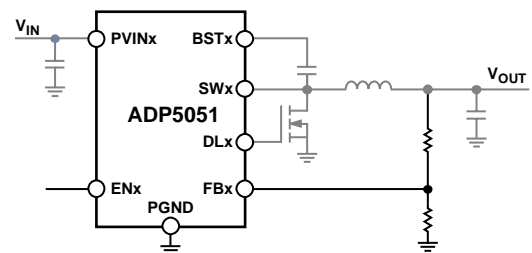

Figure 62. Typical Circuit with High Current Traces Shown in Gray
- Ensure that the high current loop traces are as short and wide as possible. Figure 62 shows the high current path.